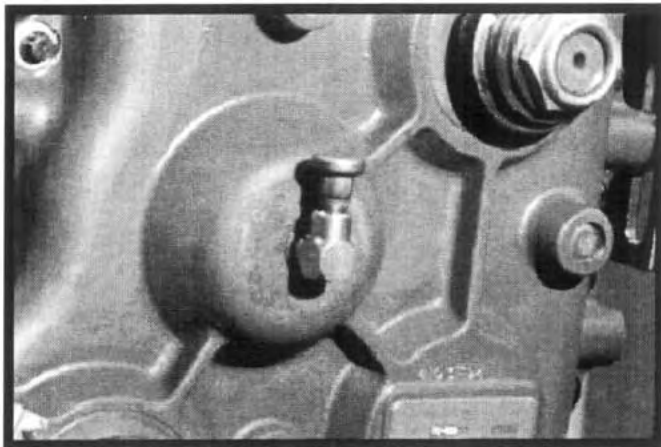

Figure 6.50
33. Install the breather vent and elbow in the front housing. The vent must point toward the top of the transfer case. See Figure 6.50.